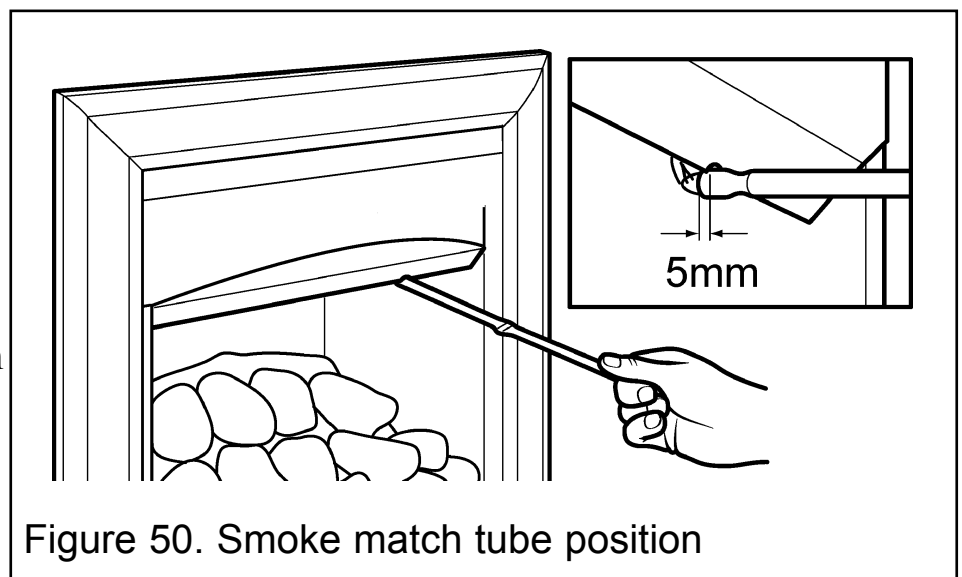

Figure 50. Smoke match tube position
4. The smoke match should be placed horizontally into the convection box at the right hand side. There is a notch in the black cross member. Insert the tube so that the neck of its flared end is 5mm passed and in contact the cross member - See figure 50.